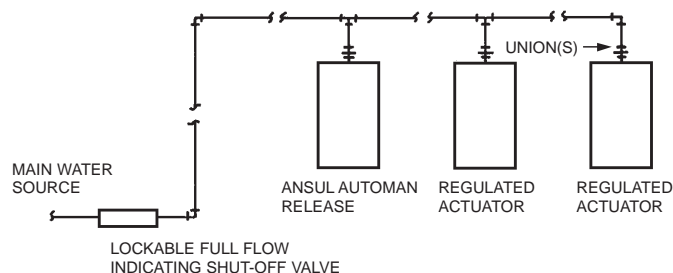

FIGURE 23
3. A maximum of three PIRANHA water flow valves can be connected to a common waterline when all the valves are actuated simultaneously. See Figure 23.